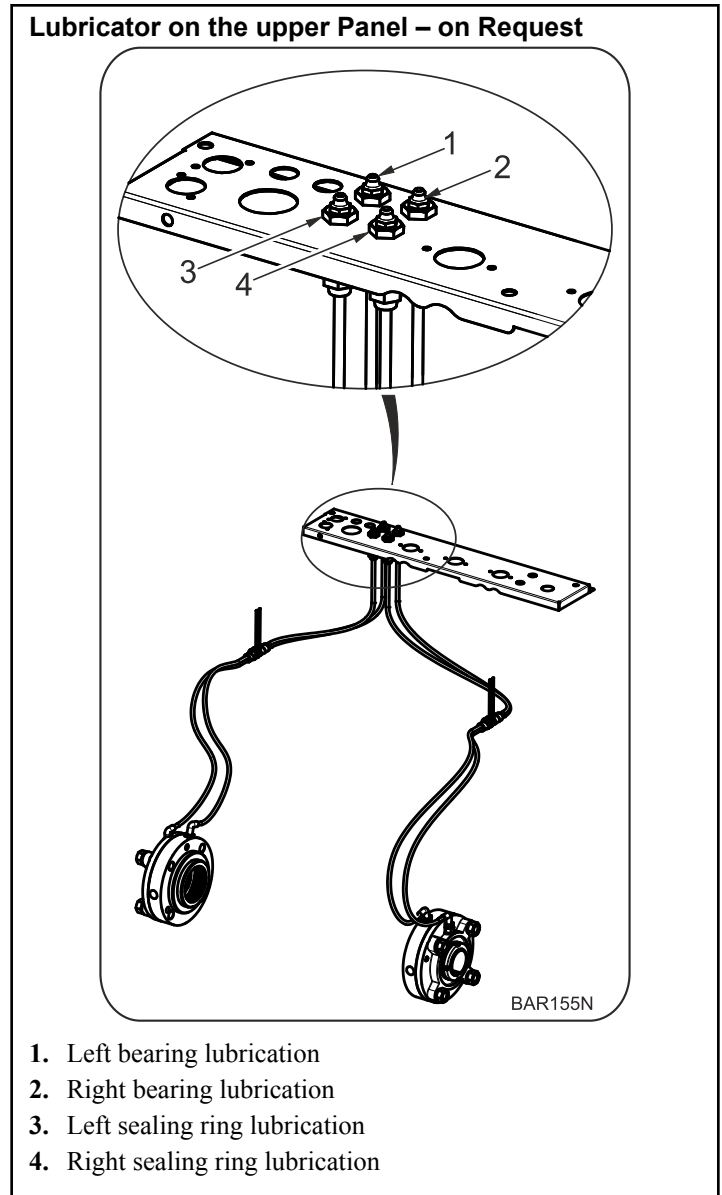

Figure 56
- The standard location of lubrication points on the upper panel. Refer to *Figure 56*.